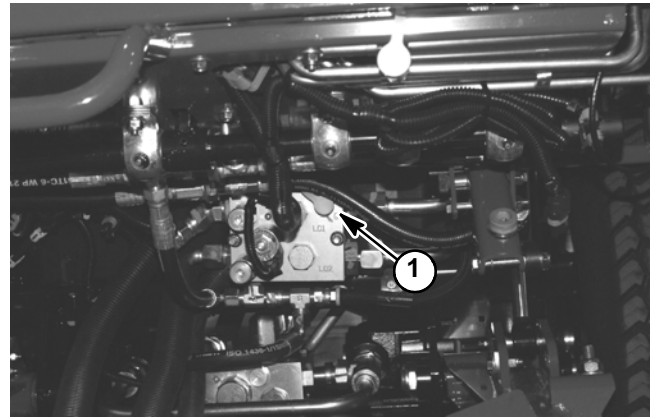

Figure 38
3. Install 5000 PSI (350 bar) pressure gauge with hydraulic hose attached to manifold test port for the deck to be tested (Figs. 38, 39 and 40).